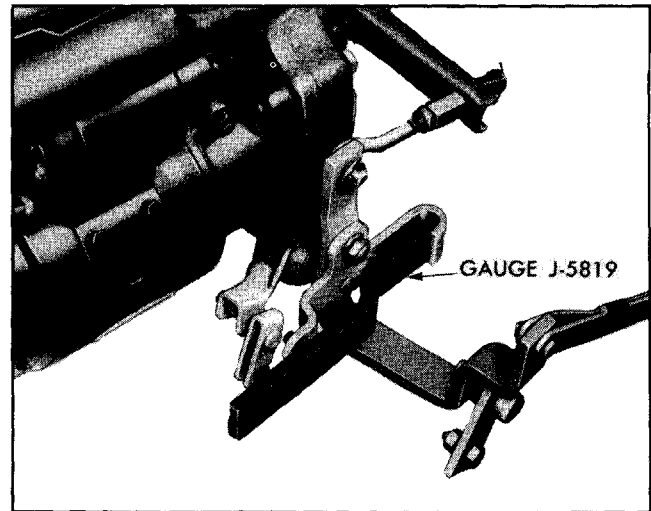

Fig. 6C-5 Gauge in Place to Adjust Overcenter Spring Lever
and lever from which push rod was removed. Then, while applying rotation to the clutch countershaft to hold clutch pedal against stop, rotate overcenter spring lever until third pin in gauge can be inserted in hole in overcenter spring lever (Fig. 6C-5).
2. Remove clutch bearing support spring washer (Fig. 6C-2).